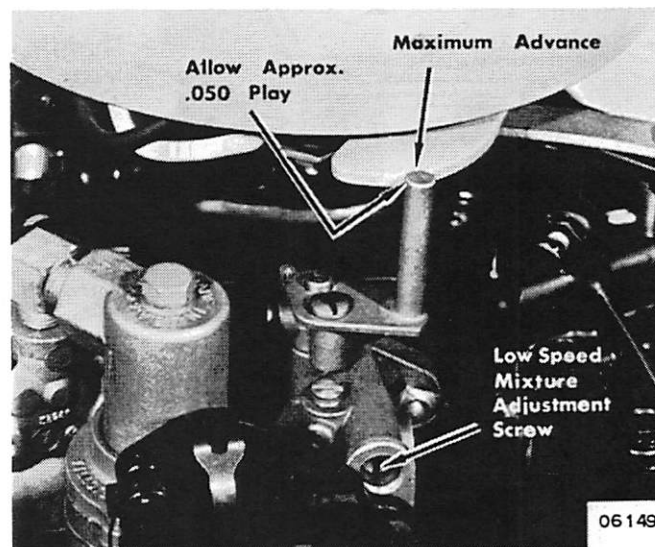

Figure 2. Maximum Stator Plate Advance - Merc 40
4. Turn twist grip to obtain maximum stator plate advance. (Figure 2) Maximum spark advance on Merc 40 is not adjustable.
5. Adjust throttle lever to allow approximately .050" play between throttle lever and throttle cam. (Figure 2)